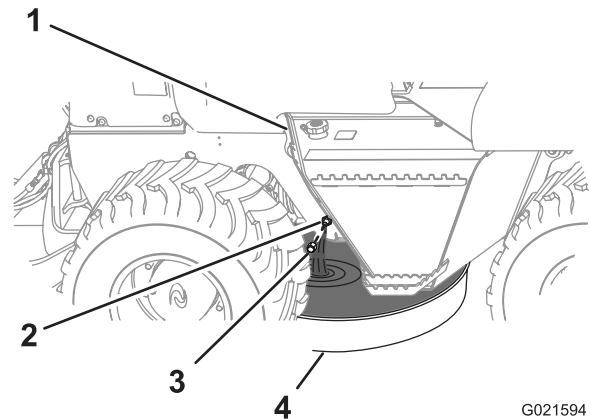

Figure 42
3. Place a drain pan that has a minimum capacity of 8.4 L (8.9 US qt) under the engine-oil drain fitting (Figure 42).
4. Remove the cap from the drain fitting and allow the engine oil to drain completely (Figure 42).
6. Install the cap onto the drain fitting (Figure 42).
1. Remove the oil-fill cap from the filler neck by pulling the cap upward (Figure 42).